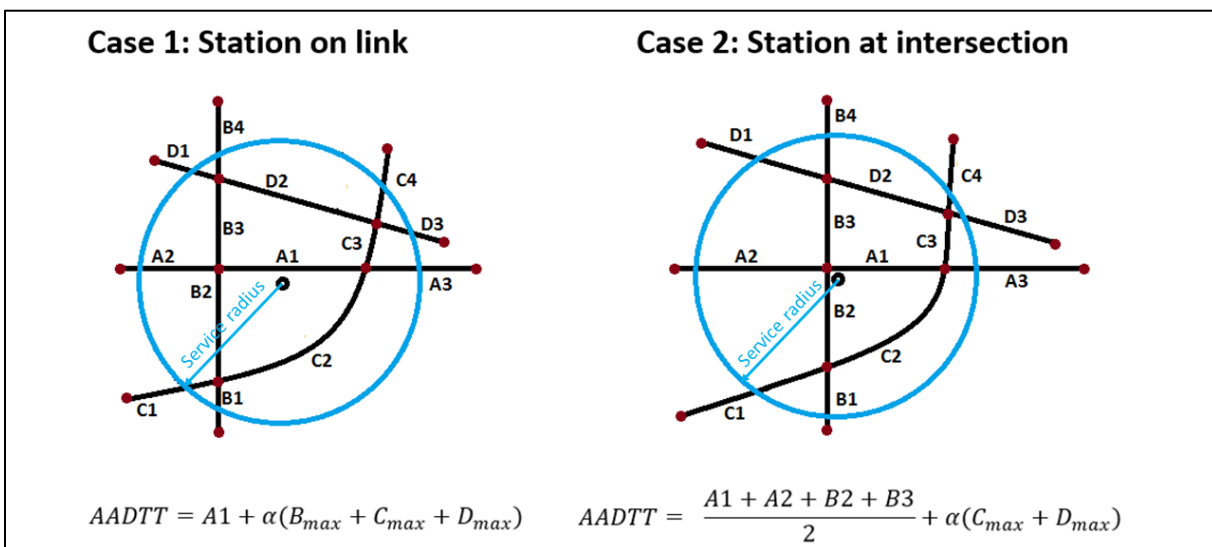

Figure 1. AADTT calculation for Case 1 (station between intersections) and Case 2 (station at intersection).
- Case 1: If a station is in the middle of an arc, the arc's AADTT is counted fully. In Figure 1, this is Arc A1.
- Case 2: If a station is at a highway intersection, we add the AADTT of all four arcs connecting at the intersection and divide by two. The idea here is that a truck arriving at an intersection will likely do one of three things: go straight through, turn left, or turn right. In all of these cases, the same truck would be counted in two different arc's AADTT. In Figure 1, the station is at the intersection of highways A and B, where arcs A1, A2, B1, and B2 meet.
- Identify all other non-adjacent highways in the 3-mile buffer around the station. In Figure 1/Case 1, the non-adjacent highways are B, C, and D. In Case 2, the non-adjacent highways are C and D.